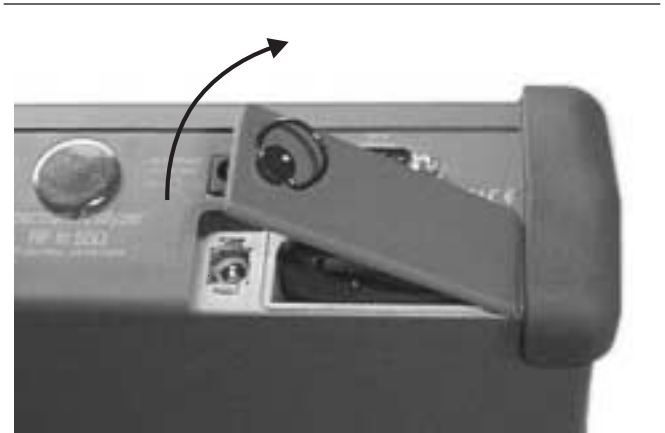

Figure 11. Removing the Battery Access Door
3. Lift the door and remove, as illustrated in Figure 11.